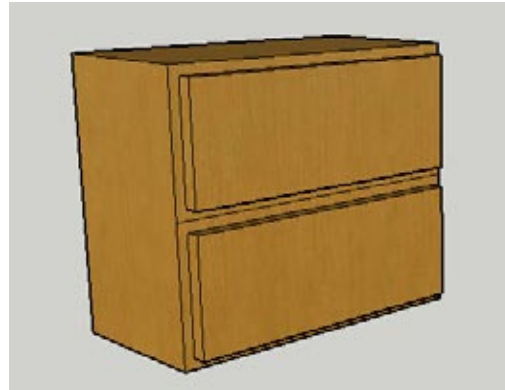

Figure 7-24
4. In a new file, create a model of a dresser (Figure 7-24) or download my Dresser model from the 3D Warehouse. If you create your own dresser, pay attention to its dimensions so that the size will be correct relative to the size of the handle.